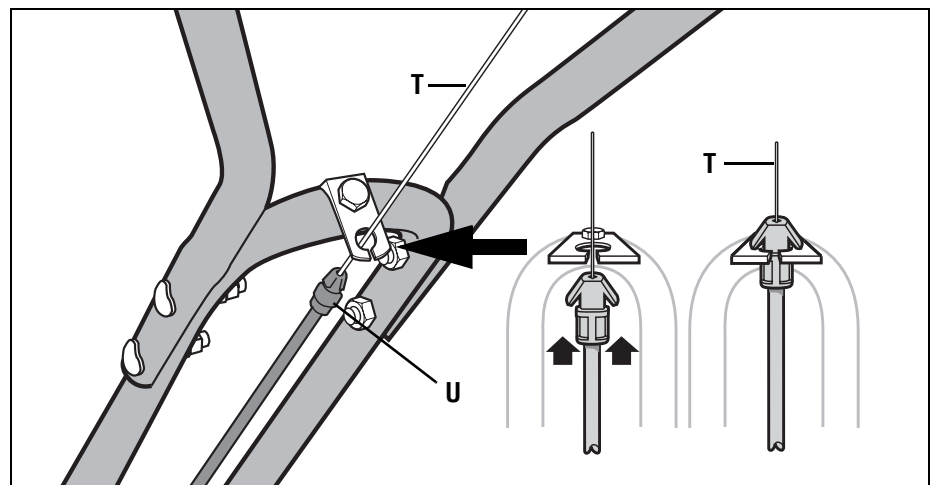

Fig. 2-4: Installing forward clutch cable bracket and cable.
- 1.** Carefully unwrap the forward clutch cable (cable without an attached knob) from its shipping position and slide the thin cable wire (T, Fig. 2-4) into the slot in the cable bracket. Push the cable connector (U, Fig. 2-4) up through the hole in the bracket until the groove in the connector snaps into place.